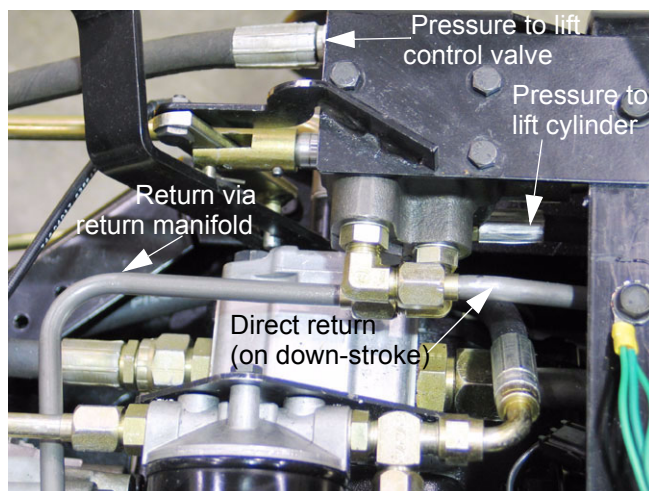

Figure 1.24
1.24. The lift control valve directs pressure to the single-acting lift cylinder through the elbow on the bottom of the valve when operator control input directs it to do so. See Figure 1.24.